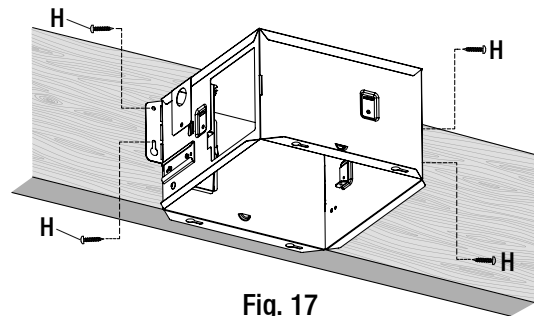

Fig. 17
- Secure the ventilation fan to the ceiling joist in a desired location. This fan offers several convenient ways to secure the housing to your ceiling joists (both conventional and I-joist). Choose the method most appropriate to your ceiling construction as shown in figures 17 through 19.